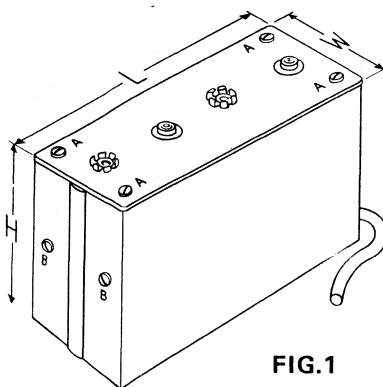

FIG.1
- (i) Before connecting supply, remove the four screws referenced 'A' in Fig. 1 and raise top plate which is joined by two wires to the internal circuit.